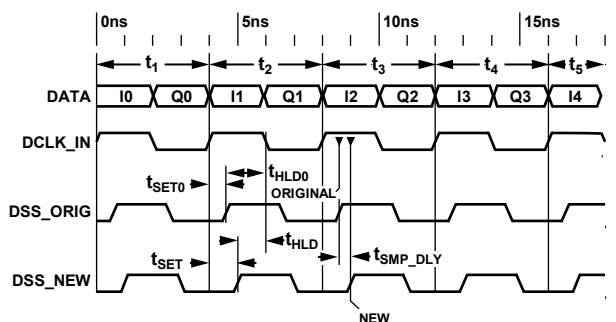

Figure 59. Digital Data Timing Calibration
7. If SEEK = 1, and HLD is more than two counts higher than SET, then your timing resembles that shown in Figure 59. Program the value of SMP to be